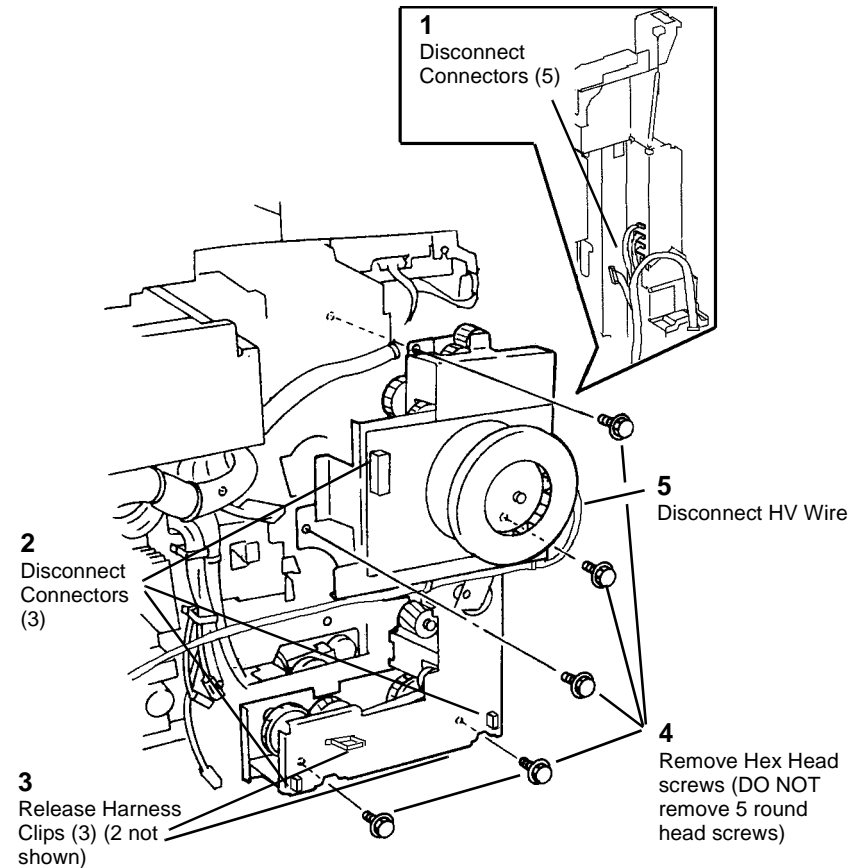

Figure 1 Removing Main Drive Motor Assembly
7. Remove Main Drive Motor Assembly (Figure 1).